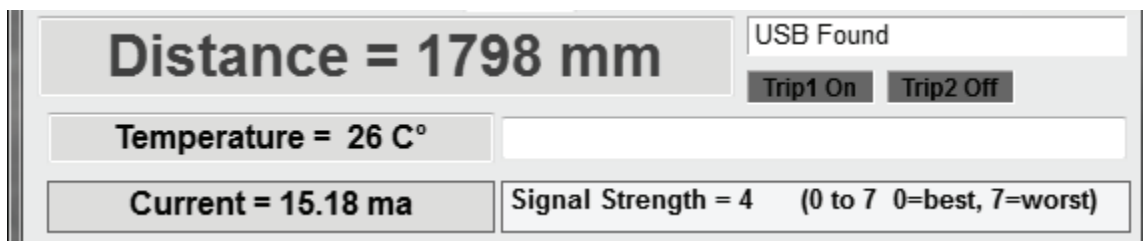

Figure 3.9
Below the Sensor Parameters and Output Configuration is the Sensor Readings and Communication Status area. On the left side are three sensor reading displays: Distance, Temperature, and Analog Output (current or voltage). On the right side are three or four communication status displays: *USB status*, *Trip 1*, *Trip 2*, or *Relay Status* (depending on sensor model), *Sensor Communication Status*, and *Signal Strength Status*. (See Figure 3.9)
- Check the *Signal Strength Status* (See Figure 3.9 on page 26 and explanation on page 27). If the signal strength is low, alternately increase *Pulses* and *Sensitivity* (pages 18 and 19) until the signal strength improves.